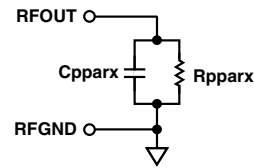

Figure 3. PA Lumped-Element Model for Rx Mode
In Rx mode the parasitic capacitance of the biased PA output is of interest for the design of the combined Rx/Tx matching network. Figure 3 shows the lumped-element model of the biased PA in Rx mode using the minimum number of components. Since the ground connection of the PA block is bonded directly to the paddle of the IC package, the ground impedance is very low if multiple vias are used between the paddle ground and the ground plane of the printed circuit board. Therefore, the impedance between the RFGND pin and the idealized common ground node of the printed circuit board may be neglected. Frequency-dependent component values applicable for the equivalent circuit of Figure 3 are listed in Table 6. A bias voltage of 3 V has been used. The PA port impedance shows a slight dependency on the bias voltage.
**Table 6. Elements of PA Equivalent Circuit (Figure 3) in Rx Mode**